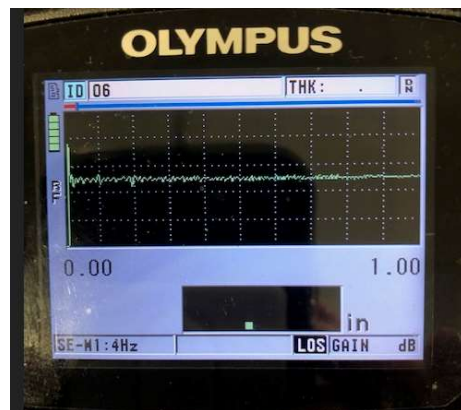

Fig. 3
3) Wait approx. 15 seconds for the unit to completely power-up. You will see the screen display as shown in Fig 3. At that point the 45MG is ready to proceed with calibration.